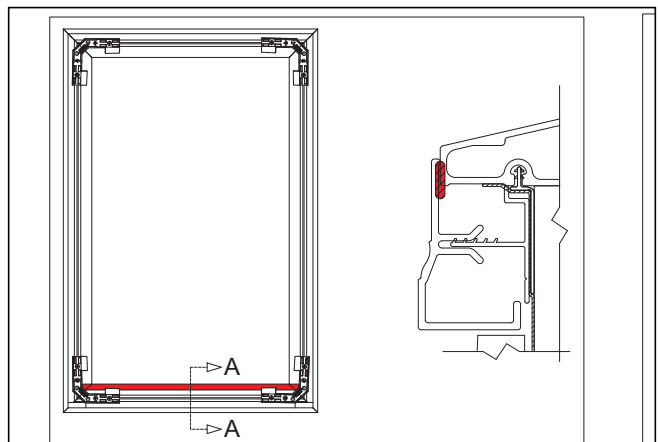

Figure 10
5. Apply a 3/16" (5) bead of clear grade NS class 25 sealant to the sill piece near the bump in the profile the length of the part, on the interior of the casing as shown in *figure 10*.